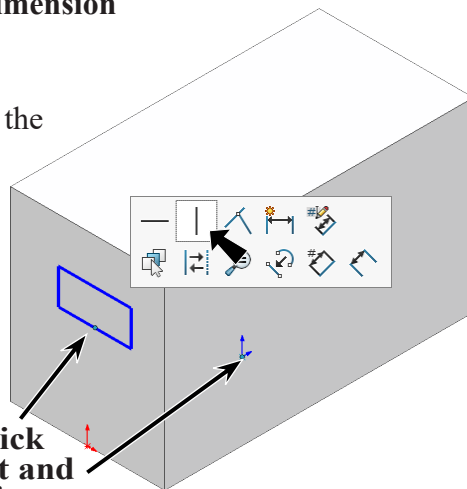

Fig. 7
Step 7. **Ctrl** click **midpoint**  of a **horizontal line** and **Origin**  (blue) to select both. Release Ctrl key and click **Make Vertical**  on the context toolbar, Fig. 7.